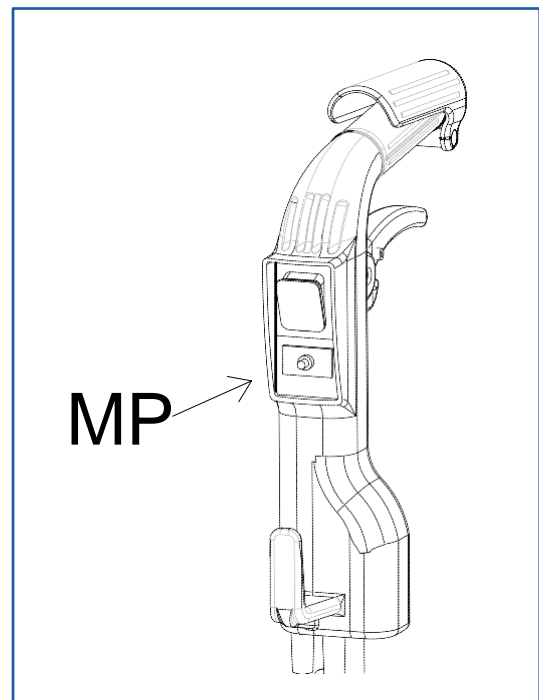

Figure 1.12
The “Motor Protector” (MP) (Figure 1.12), is a safety device which stops the machine in case conditions occur that overload the motor (e.g. foreign bodies caught in the brushes which can prevent their rotation, locking of the brushes for failed start-up due to great friction with the floor, mechanical fault, electric motor fault, poor supply of power, overheating, etc.).